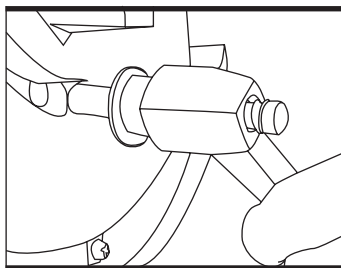
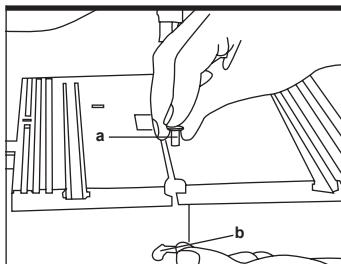

Fig 1
Fig 3
1. Fitting the machine table (See Fig1 & Fig3)
4) Unscrew and remove the wing nut (b) and retaining screw (a) (see Fig3).
5) Turn the tightening screw (4) anti-clockwise to remove the tension from the blade (23).
6) Remove the blade (23) from the blade pulleys (8,5) and take out through the slot in the table (19).
7) Fit the new blade (23), aligned centrally on the blade pulleys (8,5).